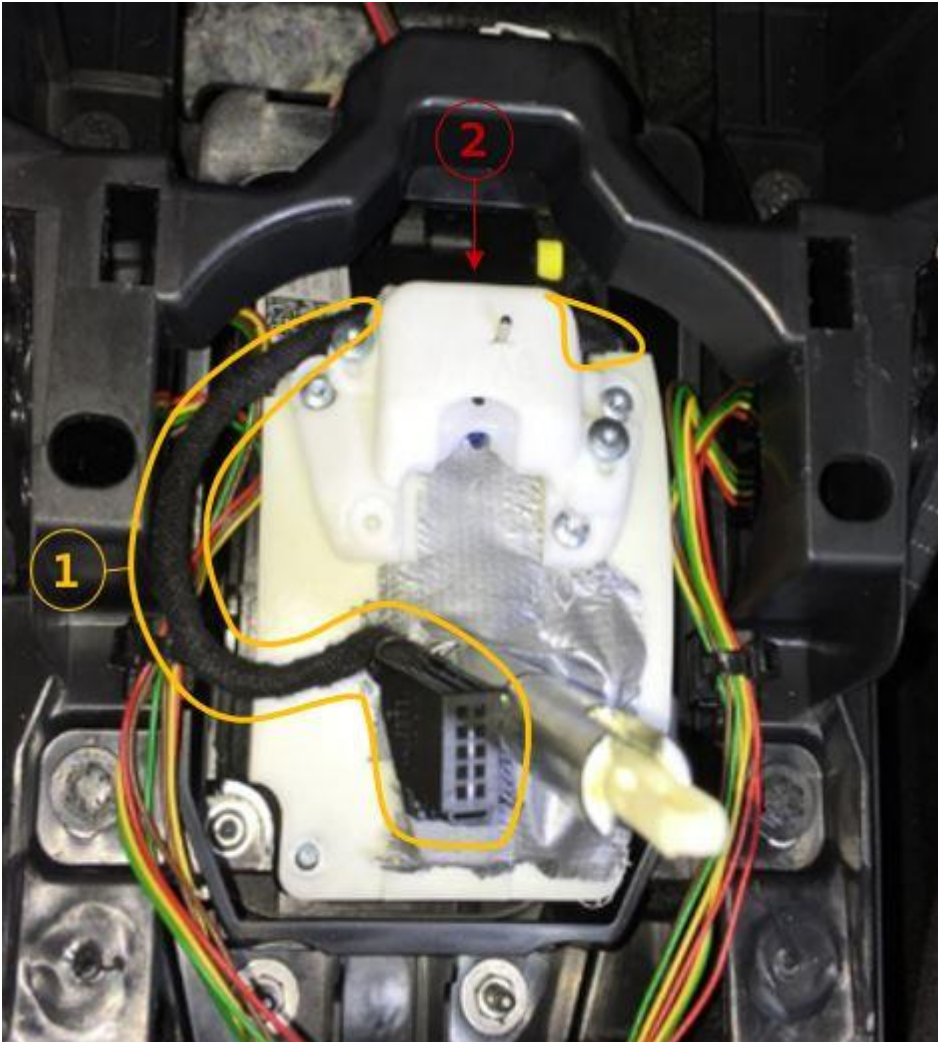

Figure 11. Display unit Y26 harness.
10. As shown below route the wiring of the selector lever transmission range position display unit Y26 back to the driver's side of the shift selector (Position 1) and secure harness back to the selector lever control module (Position 2) (Figure 11).